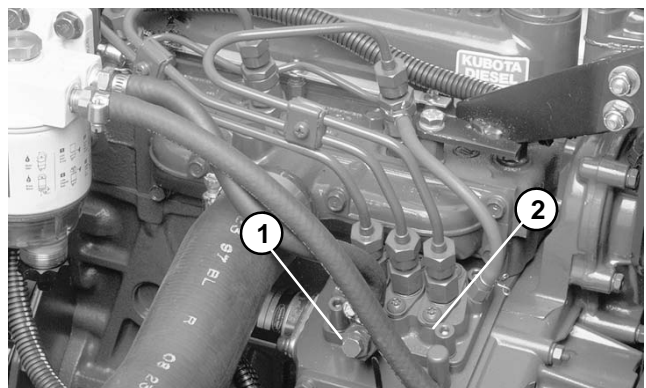

Figure 10
5. Open air bleed screw on the fuel injection pump with a 12 mm wrench (Fig. 10).